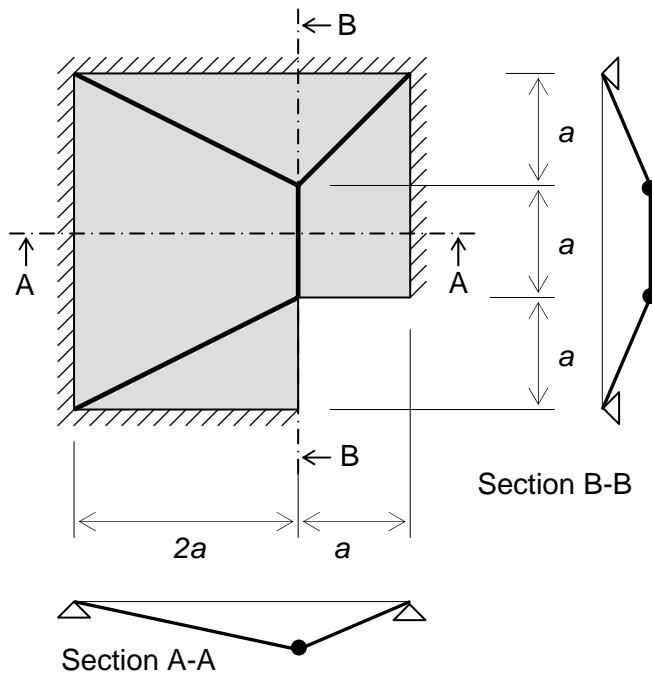

Figure 5. Yield line pattern of problem 2b
- b** We consider the yield line pattern of Figure 5. Determine an upper bound for  $q$  expressed in  $m_p$  and  $a$  (1.5 points).